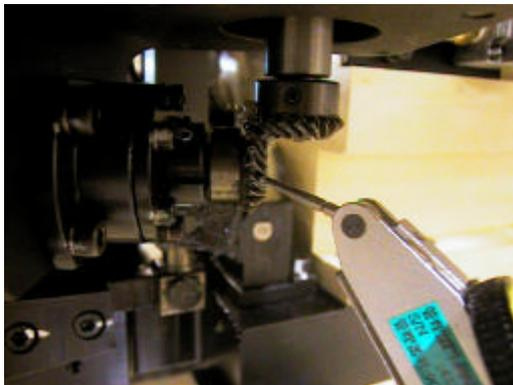

Figure 18
3. Place a dial gauge on the lower of the two gears (see figure 18 below) and measure the backlash of the gear at four points: 0, 90, 180 and 270 degrees. The backlash should be in the range 0.03 to 0.13mm. If the backlash is not in range, realign the two gears as described in step 1.